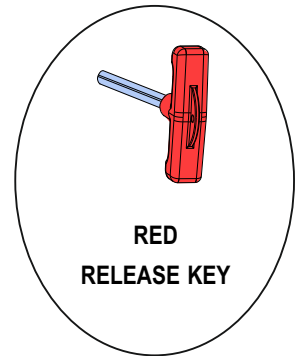

Fig. 25
- Insert the red release key (**provided**) and turn it clockwise until it stops, without forcing it - Fig. 25
- Turn the red release key anticlockwise until it stops, without forcing it - Fig. 25